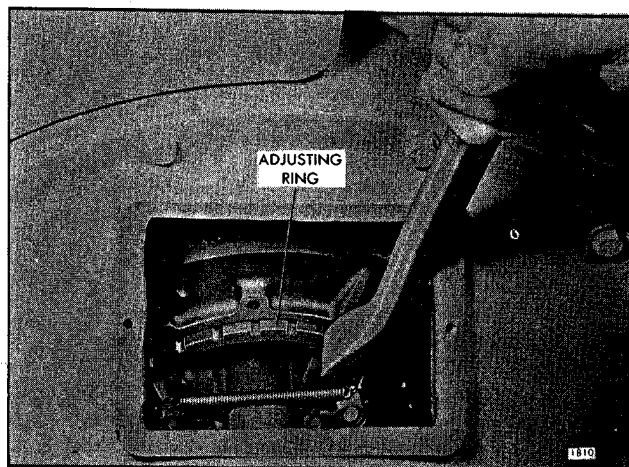

Fig. 5 - Adjusting Power Take-Off Assembly
3. Remove the clutch adjusting ring spring lock; then, turn the clutch adjusting ring counter-clockwise to tighten the clutch as shown in Fig. 5. While making this adjustment, prevent the clutch from turning by holding the clutch drive shaft.